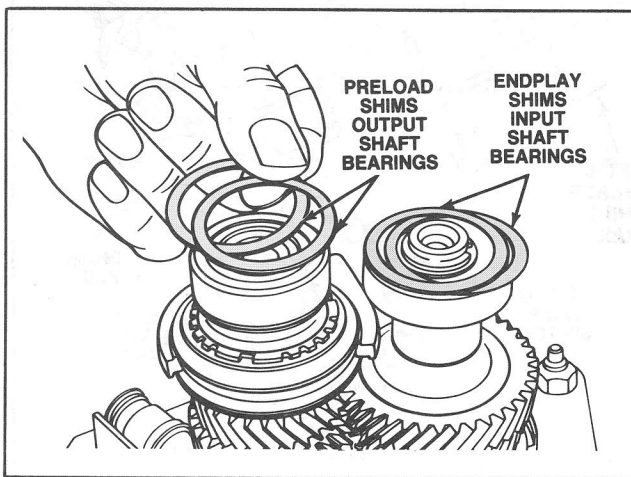

Figure 38 Shim Location
8. Remove the bearing preload shims, endplay shims and output shaft bearing cup. (Figure 38).